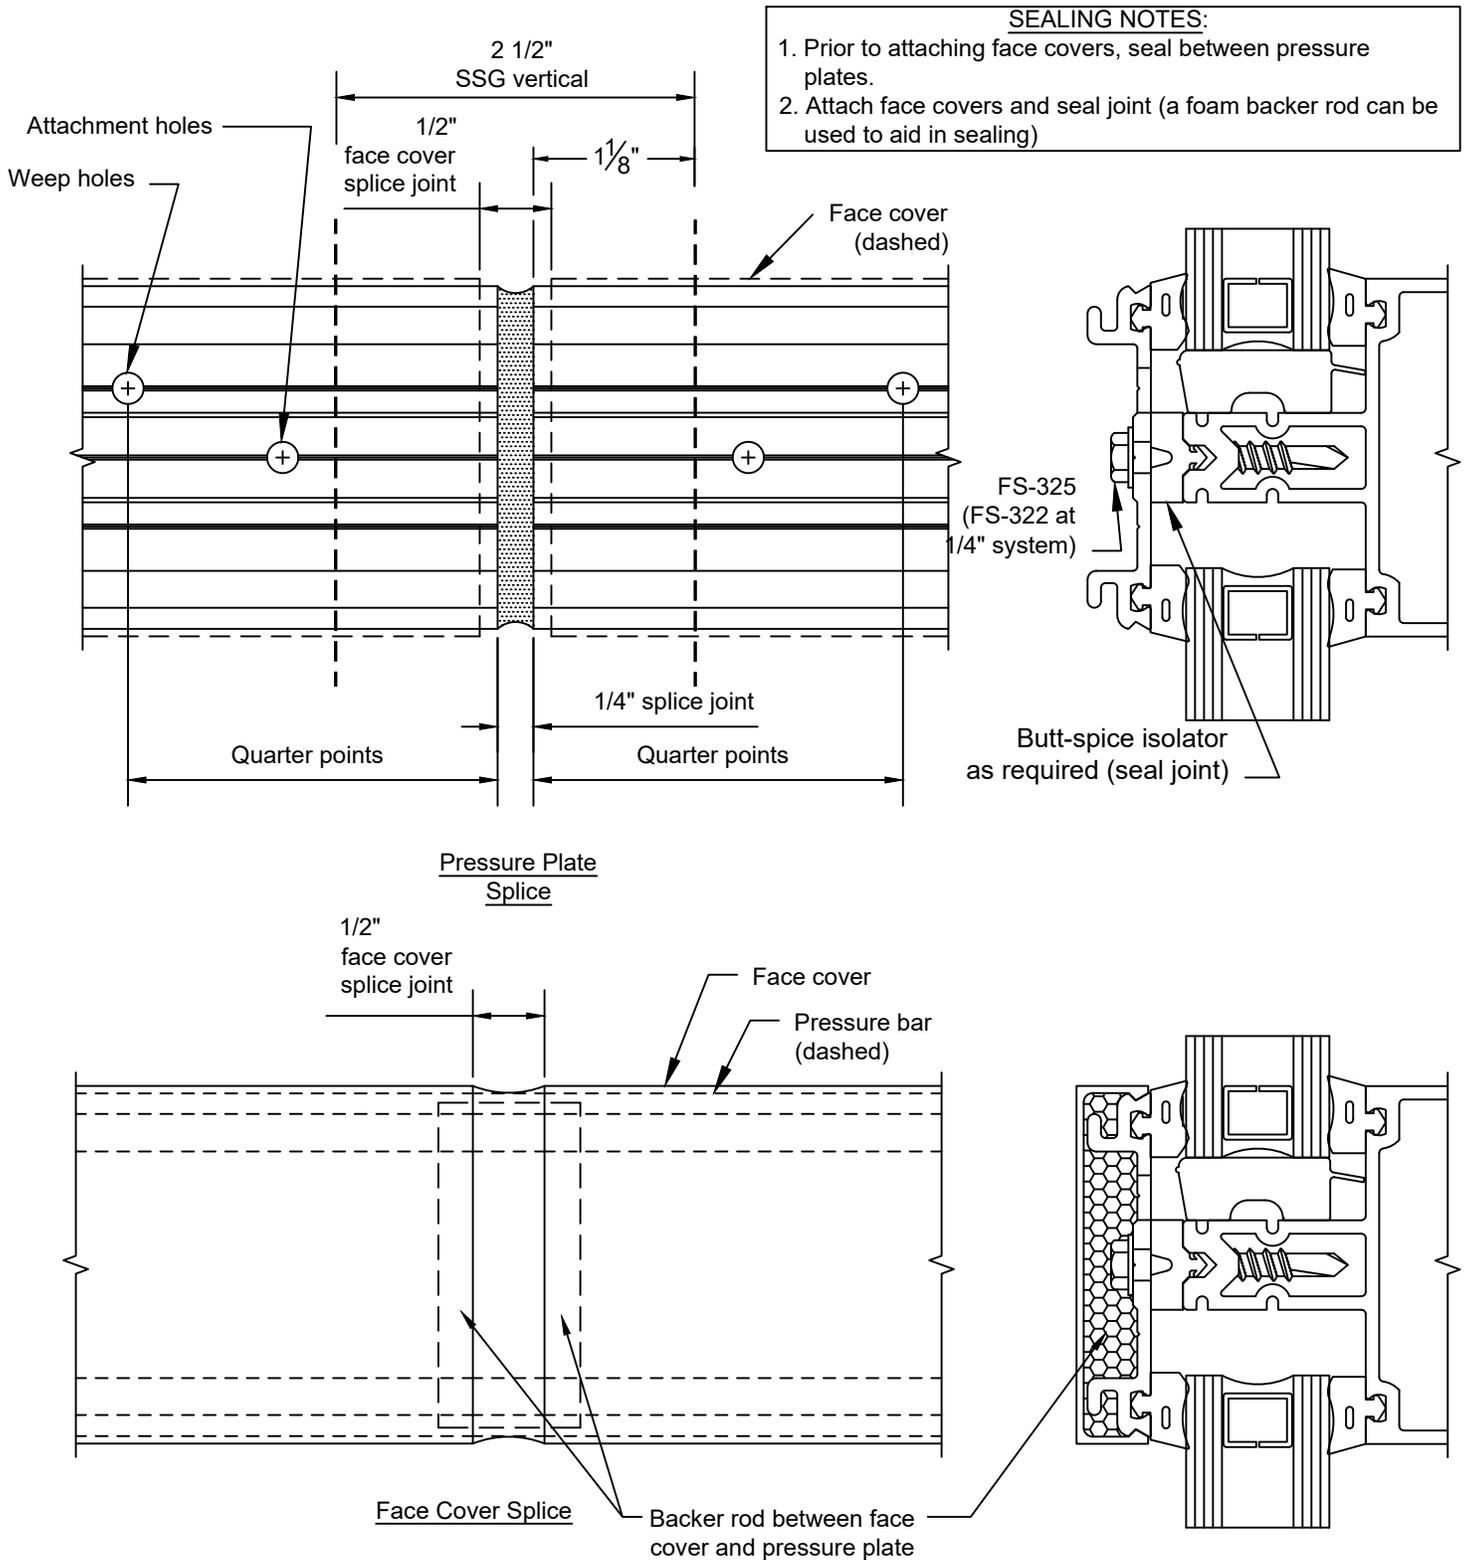

Figure 21
- 3.11 After removing horizontal temporary retainers, center horizontal pressure plates in opening, leaving 1/8" gap on each end. Make sure that weep holes are on the top side of the pressure plate. **NOTE:** Horizontal pressure plates and face covers run continuous over SSG mullions, not to exceed 3 lites in length. Apply face cap to continuous pressure plates only. Do not span face cap over discontinuous/separate pressure plates. SEE FIGURE 21, page 27 for splicing and sealing instructions.